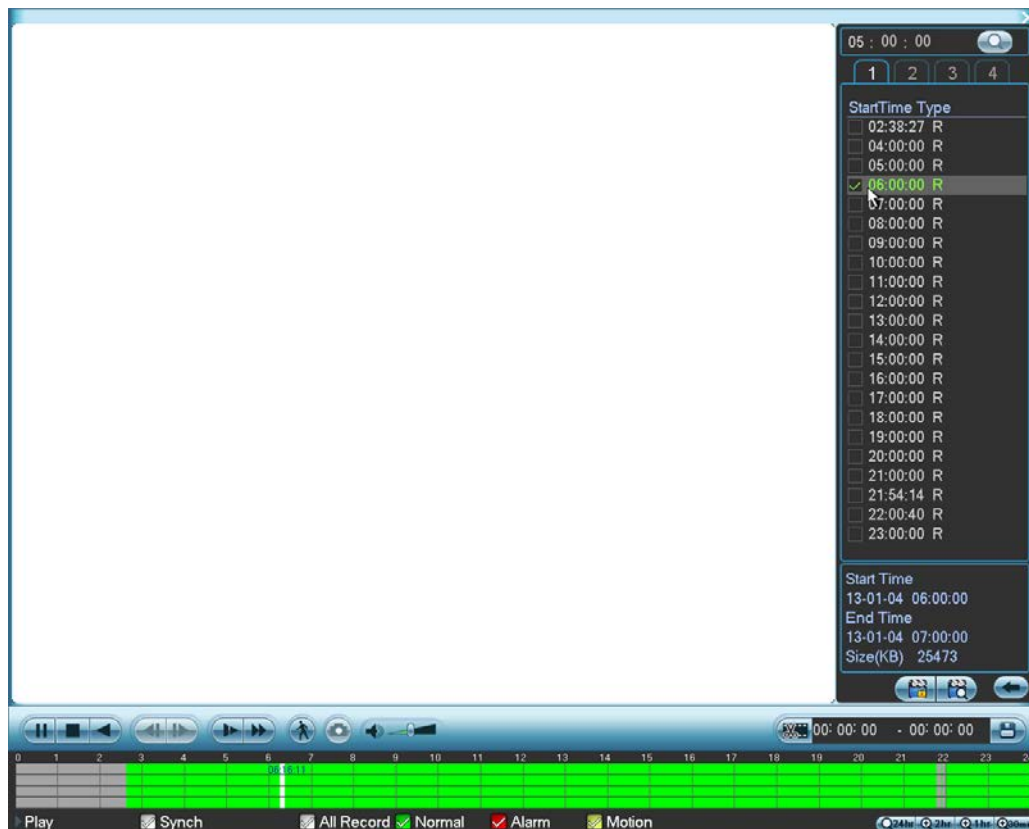

Figure 2-10
5. Click the Play button ►. The system begins play beginning from the specified time. See Figure 2-10.